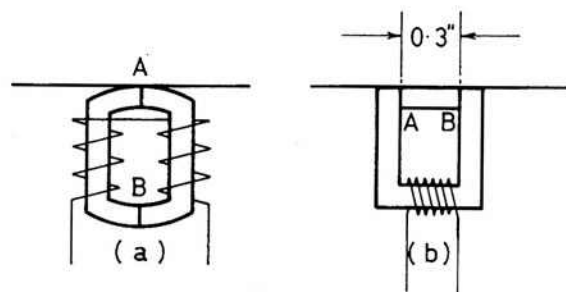

Fig. 1. Standard and echo replay head system
In Fig. 1(a) a normal replay head is shown. The core consists of two C-shaped pole pieces, each carrying a coil. Gaps are formed where the pole pieces meet and it is across the gap A that the tape passes. The coils are connected in series in such a way that the induced voltages due to the pole piece fields reinforce and provide a useful signal. The arrangement of Fig. 1(b) is similar, except that the back gap (B) has been moved round and there is only one coil. Recorded tape passing across the head from left to right, passes gap A first and the magnetic field induces a voltage in the coil winding. A fraction of a second later, the tape reaches the gap B and a second, identical signal is induced. The two signals mix in the head so that the output is complete with echo effect. The advantage of an echo head is that the echo can be added to any recording when required and the recording itself is not altered in any way. It may well be suggested that the same effect could be obtained by placing a second replay head against the existing head and connecting the outputs together. With the slower tape speeds now in general use, it is normally not possible to place the heads close enough together, due to the head dimensions. A time delay of 0.08 sec between signals will produce an acceptable effect and at 3.75 ips, represents a